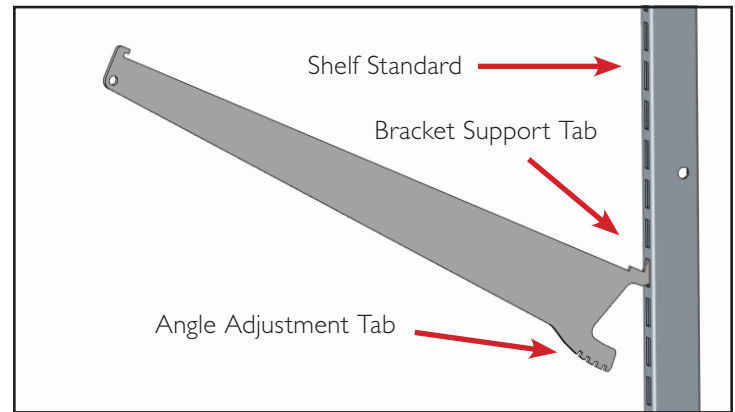

Fig. 3. Install the shelf brackets.
- a. Position the shelf bracket in front of the shelf standard. Raise the front of the bracket up at a 45° angle, to allow the bracket support tab to slide into the slot in the shelf standard. See fig. 3.